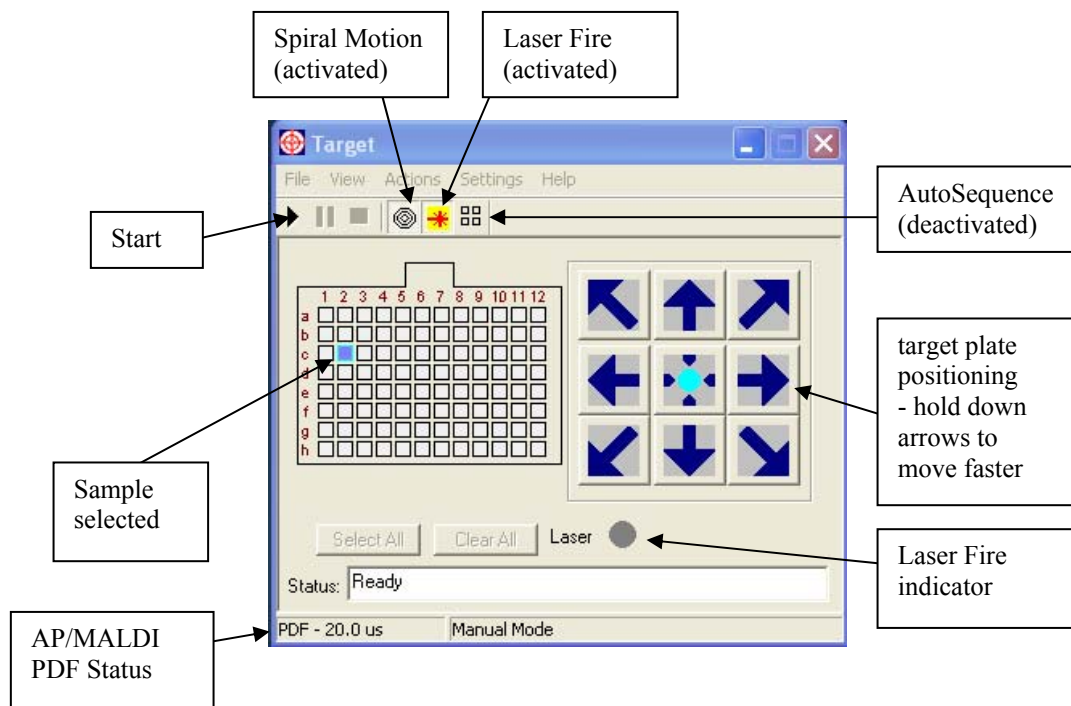
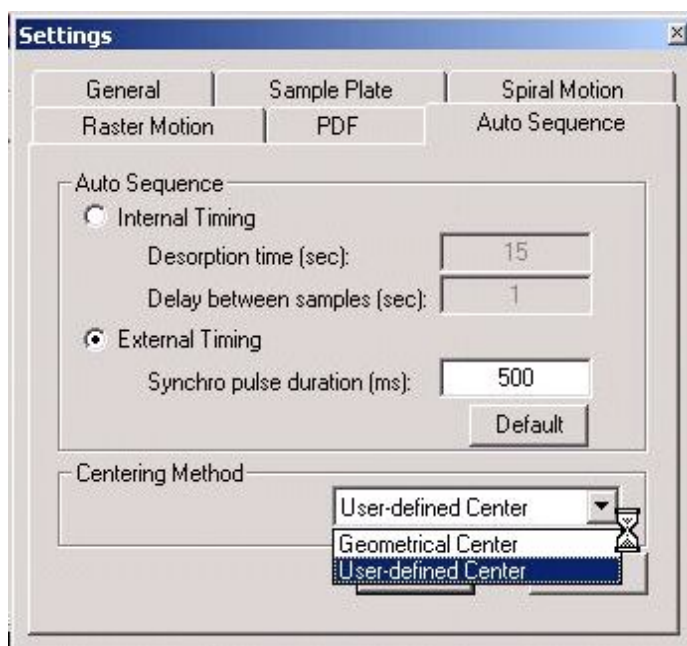

Fig. 7-12. Target software controls.
Fig. 7-26 Selection of sample Centering.
There are two modes of operation for the Target software: Manual (AutoSequence toolbar icon is deactivated) and AutoSequence. Switch between the modes by pressing the AutoSequence toolbar icon  (Fig. 7-12). In manual mode, only one sample on the "Target plate" can be selected. Click any spot in the Target Plate field and the target plate will move to the selected position. You can shift the position of the spot by clicking the arrow buttons placed around the Center button (See Fig. 7-12) or holding down on the arrow buttons to advance faster. Click the Center button to restore the central spot position.
1. Deactivate the “AutoSequence” button in the *TARGET* software window (See Fig. 7-12 for location of AutoSequence button).
Different modes of AutoSequence are available (Fig. 7-26) and include: Geometrical Centering (Geometry) and User-defined Centering (Manual). Geometrical Centering mode is used when the center of all sample spotted on a plate are precisely in the same spot in each sample cell. This is useful for automated, precisely controlled spotters. User-defined Centering is used to
2. **Check** the “AutoSequence” button is activated in the main *TARGET* software window (see Fig. 7-12) and **check** the “External Timing” radio button in the *TARGET*’s “Settings Dialog” window (see Fig. 7-26).
3. **Check** the “AutoSequence” button is activated in the main *TARGET* software window (see Fig. 7-12). For Internal Timing, **check** the “Internal Timing” radio button in the *TARGET*’s “Settings Dialog” window (see Fig. 7-26). You don’t need any External Control cable in this case. For External Control, **check** the “External Timing” radio button. 500ms in the figure is the appropriate duration of Start pulse.
5. **For the “Internal Timing” mode**, start “Continues” data acquisition/recording in Tune-plus program of Xcalibur package. Then click on the PLAY button in the *TARGET* software window to start AP/MALDI (*PDF*) operation. The data acquisition will start and continue during the time specified for the spot (“Desorption time” in Fig. 7-26). When the data acquisition from the first sample is done, the laser firing is stopped and the target moves to the next sample spot. The **current** sample is indicated by a blinking color. The process will